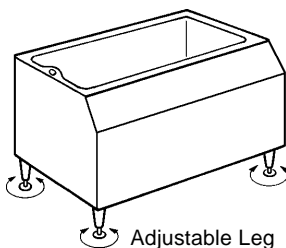

Fig. 4
- 2) Position the Storage Bin in the selected permanent position, and level it in both the left-to-right and front-to-rear directions. See Fig. 4.